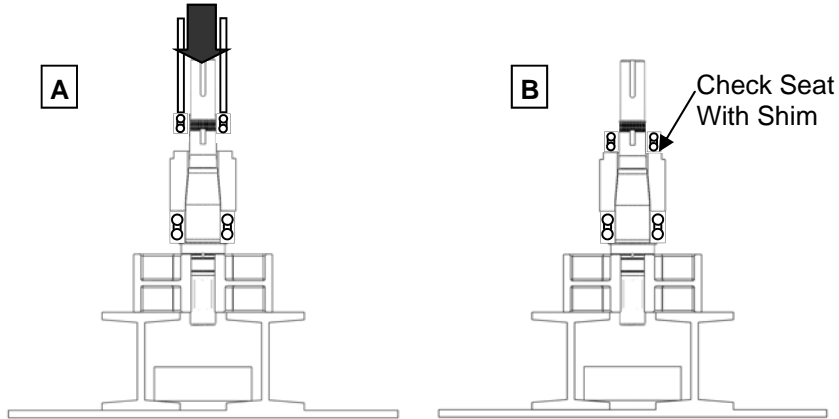

Figure 50: Pressing Rear Bearing onto Shaft
2) Apply a light coat of lubricant on the shaft. Open the new rear bearing and place it over the shaft above the bearing spacer (Figure 50, A). Using a sleeve that rests on the bearing's inner race and over the shaft, press the bearing on until it seats against the bearing spacer. For the AL40 series it is important to keep all assemblies together as they come packaged. Make sure the bearing is rested on the bearing spacer using a shim (Figure 50, B).